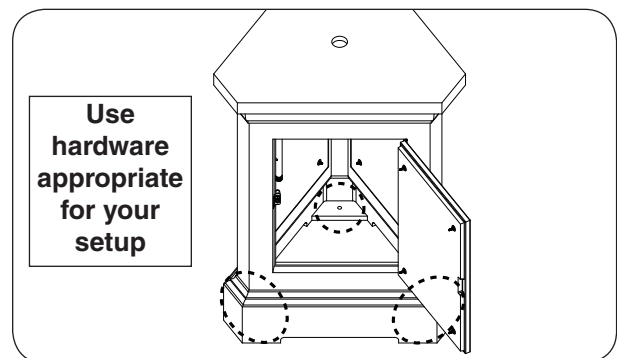

Fig. 26-2 Mount pedestal
2. Using appropriate mounting hardware for the floor material/construction, secure the pedestal into the floor. The interior of the base has three $\frac{1}{2}$ " holes that will allow for the pedestal to be fastened to the floor. See Fig. 26-2.